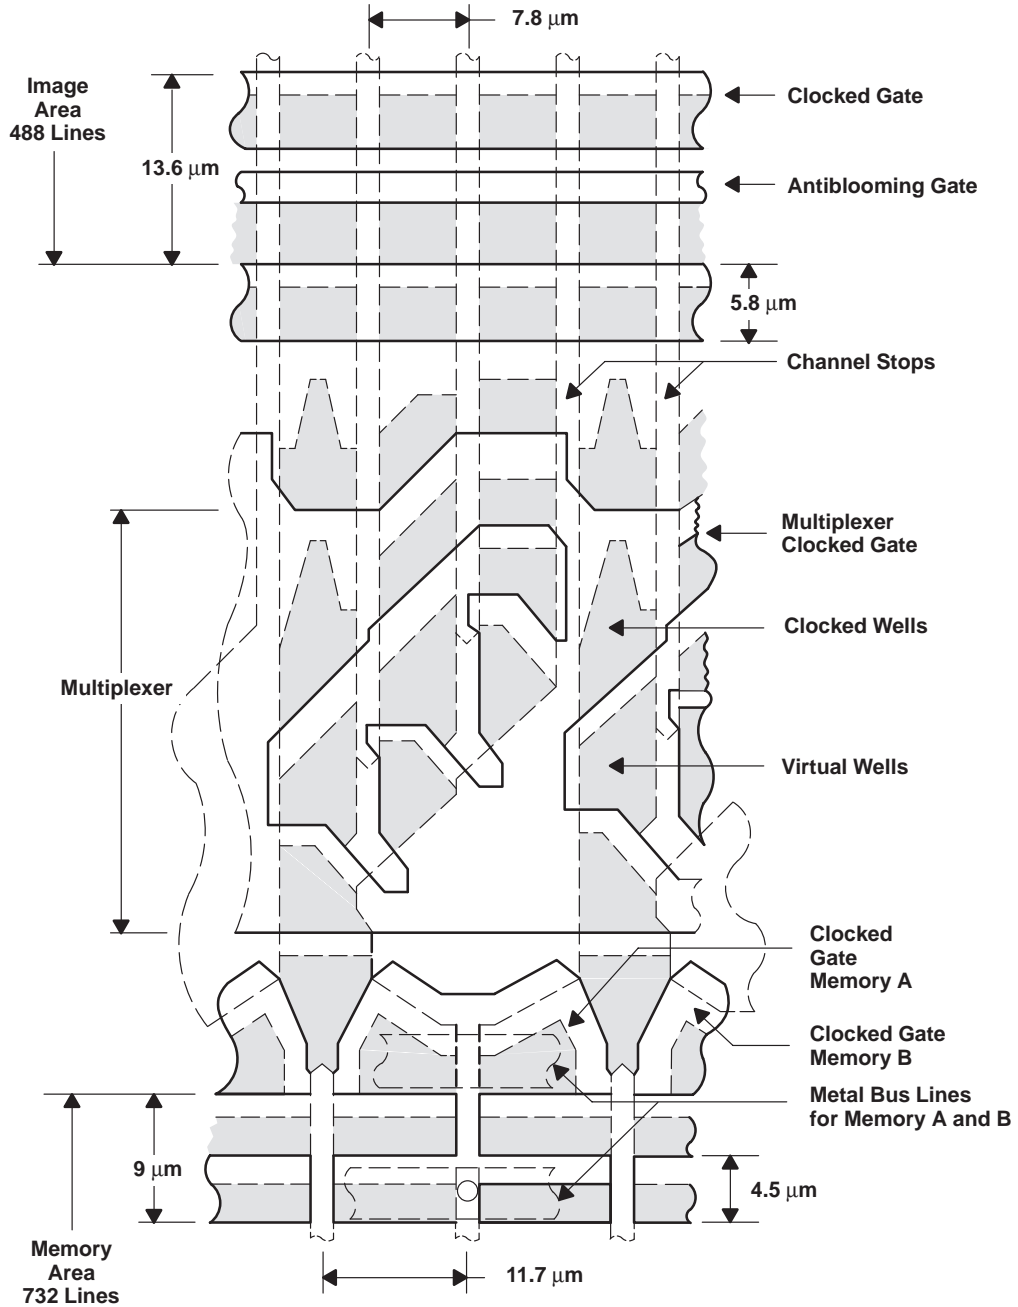
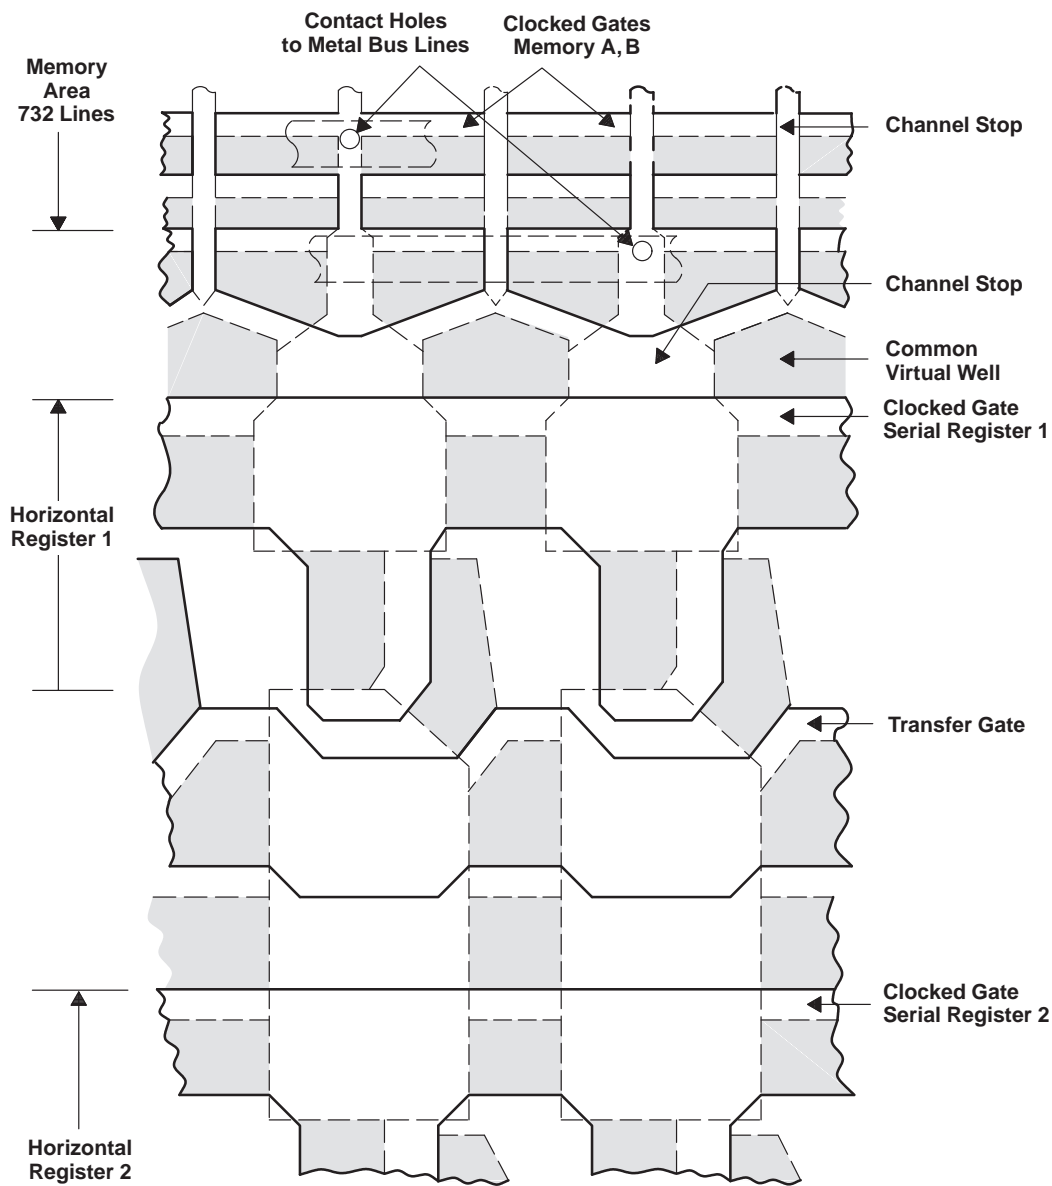
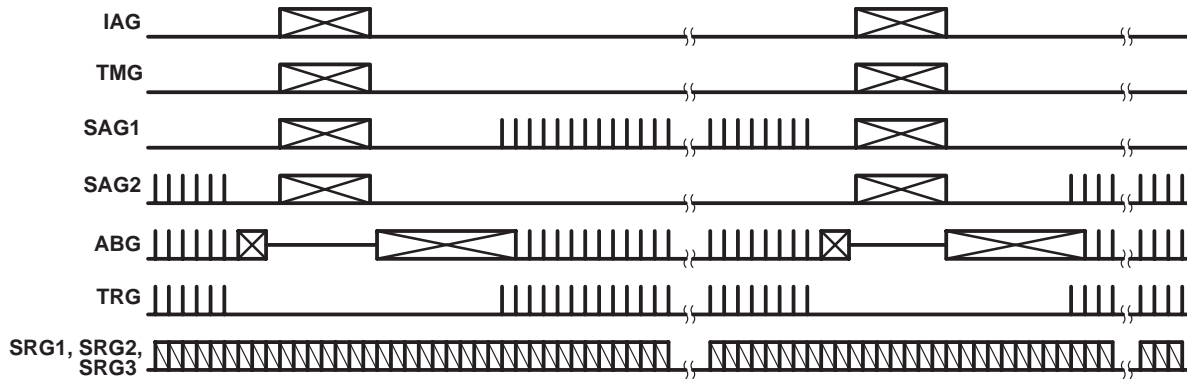
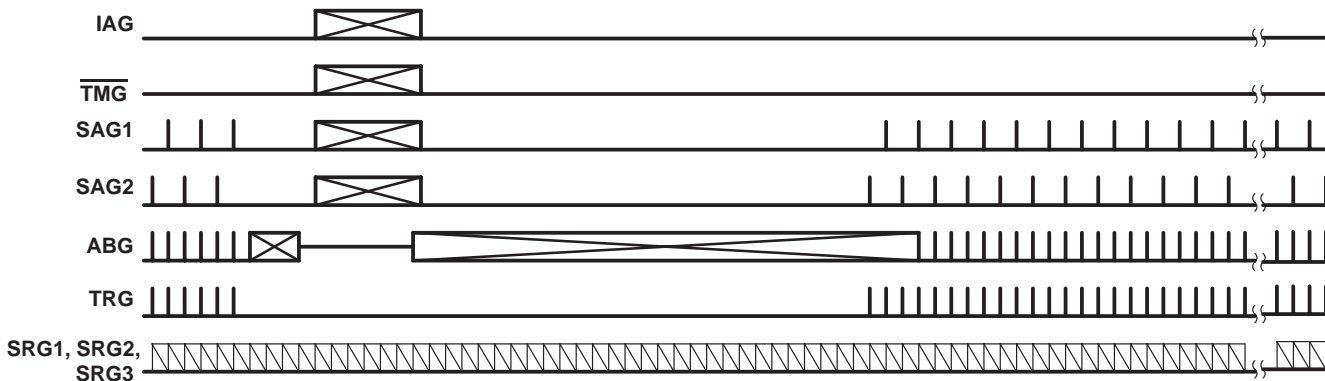

Figure 3. Layout of Multiplexing Gate
Figure 4. Layout of the Interface Region Between the Memories and the Serial Registers
Figure 6. Vertical Timing, Normal-Light Mode
Figure 9. Vertical Timing, Progressive-Scan Mode
After integration, the multiplexer rearranges two horizontal lines into vertical groups of three and separates and loads the image into the storage area. Figure 3 shows the layout of the multiplexer gate and its interface to the two field memories. Figure 4 shows the interface region between the storage area and the three serial registers. A drain is also provided to clear the image-sensing and image-storage areas of unwanted charge. Such charge can accumulate in the imager during the startup of operation or under special circumstances when nonstandard TV operation is desired. The sensor's independently addressable memories allow several different modes of sensor operation including (1) a normal-light mode, (2) a low-light mode, and (3) a still mode. The timing for these three modes is given in Figures 6, 7, and 8. The parallel-transfer timing is shown in Figure 9.